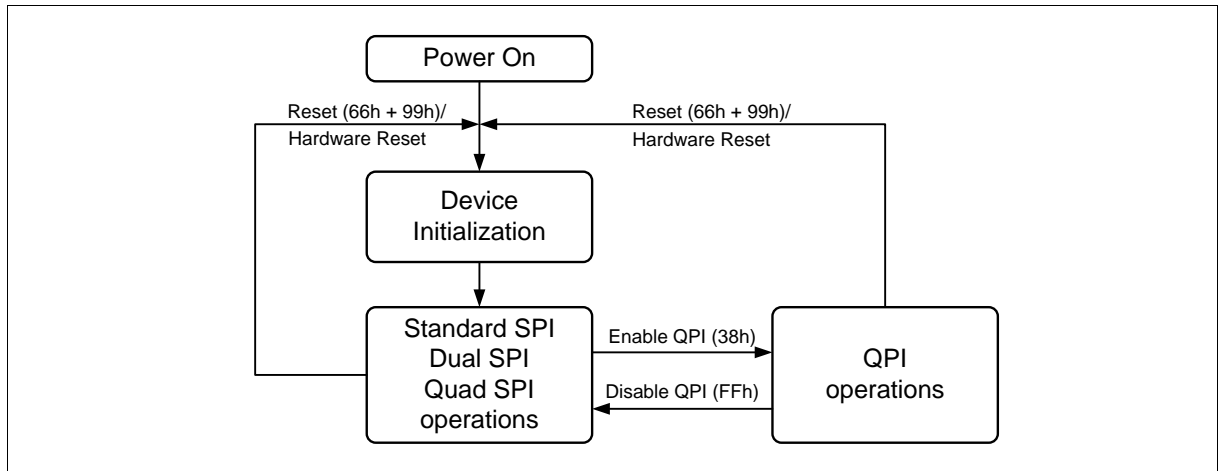

Figure 5 FM25LQ128I3 Serial Flash Memory Operation Diagram
The FM25LQ128I3 supports Quad Peripheral Interface (QPI) operations only when the device is switched from Standard/Dual/Quad SPI mode to QPI mode using the “Enable QPI (38h)” instruction. The typical SPI protocol requires that the byte-long instruction code being shifted into the device only via DI pin in eight serial clocks. The QPI mode utilizes all four DQ pins to input the instruction code, thus only two serial clocks are required. This can significantly reduce the SPI instruction overhead and improve system performance in an XIP environment. Standard/Dual/Quad SPI mode and QPI mode are exclusive. Only one mode can be active at any given time. “Enable QPI (38h)” and “Disable QPI (FFh)” instructions are used to switch between these two modes. Upon power-up or after a software reset using “Reset (66-99h)” instruction or hardware reset, the default state of the device is Standard/Dual/Quad SPI mode. To enable QPI mode, the non-volatile Quad Enable bit (QE) in Status Register-2 is required to be set. When using QPI instructions, the DI and DO pins become bidirectional DQ₀ and DQ₁, and the WP# and HOLD# pins become DQ₂ and DQ₃ respectively. See Figure 5 for the device operation modes.